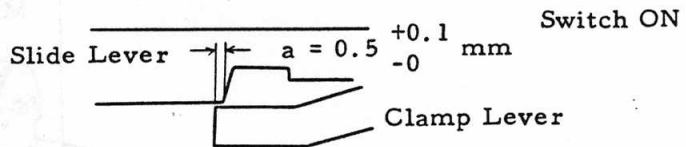

Fig. 14
- 2) The moving contact for starting and stopping M1, and starting M2 "makes" $0.5 \begin{smallmatrix} +0.1 \\ -0 \end{smallmatrix}$ mm this side of the position where Clamp Lever (49-0474) enters the notched part of Slide Lever (49-0472). (Fig. 14) Make adjustment by bending each fixed contact.